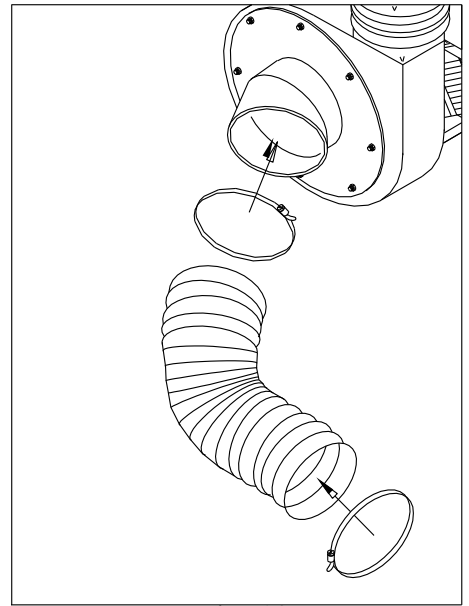

Fig. 12
11. Attach intake hose (25) to inlet on blower housing with 8" band clamp (24). **(Fig. 12)**